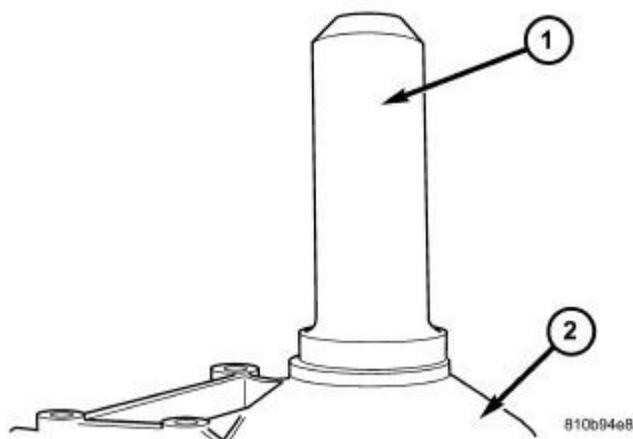

Fig. 82: Installing Output Shaft Seal
34. Install a new transmission rear seal into the transmission case with Seal Installer (special tool #8902A, Installer, Seal) (1). Refer to **Fig. 82**.